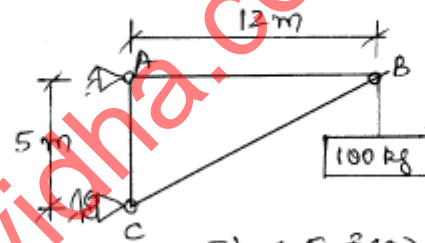

Fig. 6 Q.3(a)
- Q.3** (a) Determine forces in member Ab and BC of a truss shown in Fig.6 using Method of Joints and in member AC using Method of Sections. **07**